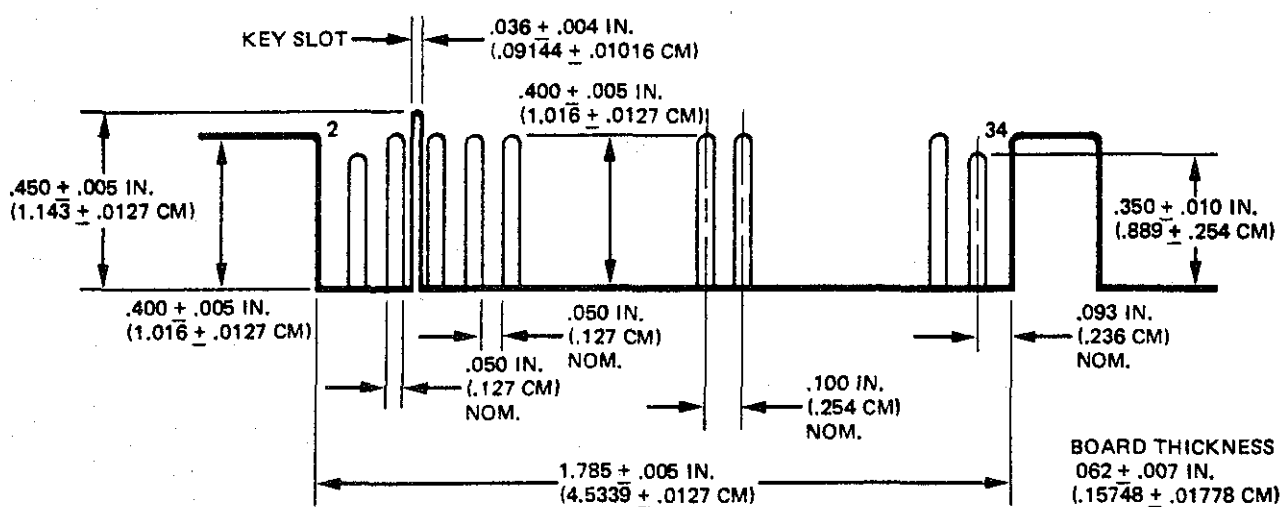

Figure 2-4. J1 Connector Configuration
2.3.2.1 Primary Signal Interface Connector. This interface is through connector J1 which is a 34-pin card-edge connector on the PWB. Figure 2-4 shows the configuration of this connector. The pins are numbered 1 through 34 with the even numbered pins on the component side and the odd numbered pins on the solder side. Pins 33 and 34 are on the end of J1 nearest the spindle motor. A key slot is provided between pins 3/4 and 5/6 for optional connector keying. Pins 1/2 and 33/34 are labeled. Pin assignments for the interface signals are shown in Figure 2-5. The recommended mating connectors for J1 are listed in Table 2-1.